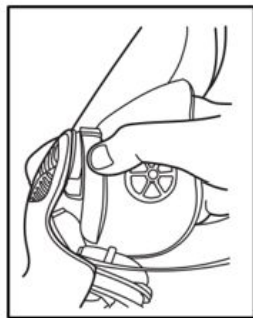

Fig.15
1. Remove the nose cup assembly by grasping the hard plastic ring of the nose cup, where it attaches to the lens, and gently pulling it up and away from lens assembly (Fig. 15).